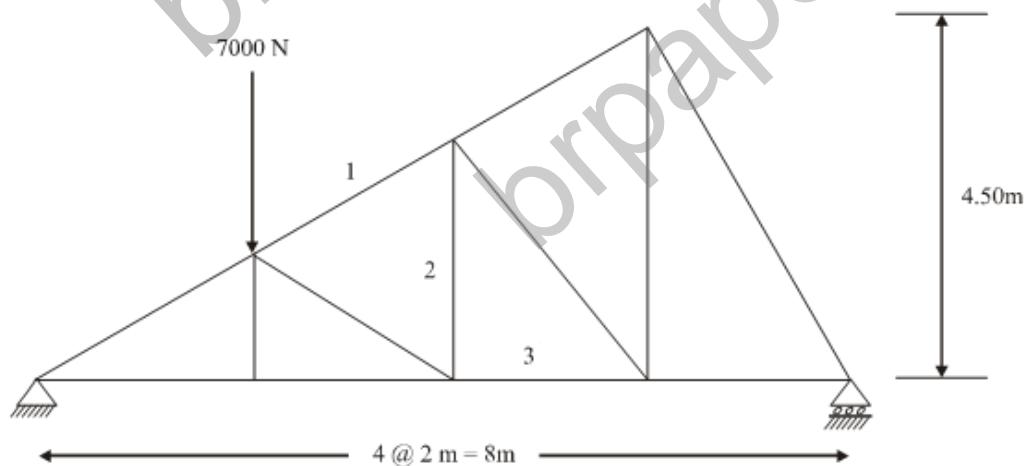

Fig. 1
6. A plane truss is loaded and supported as shown in **Fig. 1**. Determine the nature and magnitude of the forces in the members 1, 2 and 3.